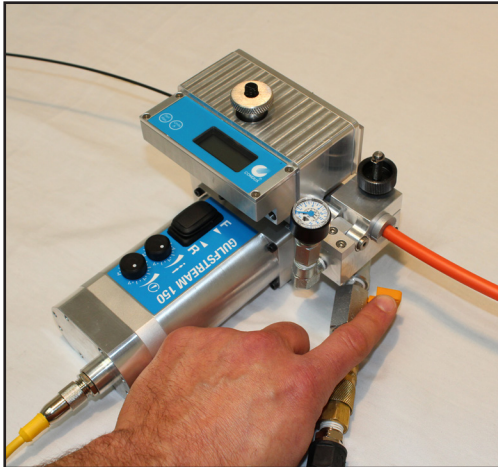

Figure 18. Turn Off Air
1. Stop air by turning the Air Control Value Counter Clockwise (See Figure 18).